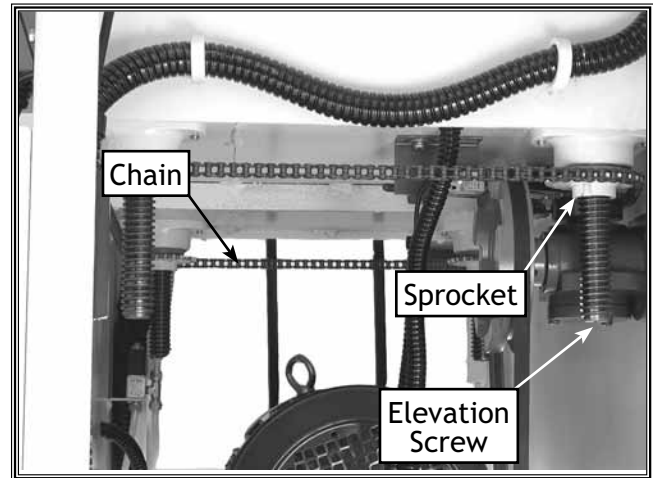

Figure 38. Lubrication points.
- After every 20-40 hours of use, lubricate the elevation screws, chains, sprockets, and the table guides under the table with a light coating of white lithium grease. See **Figure 38**.